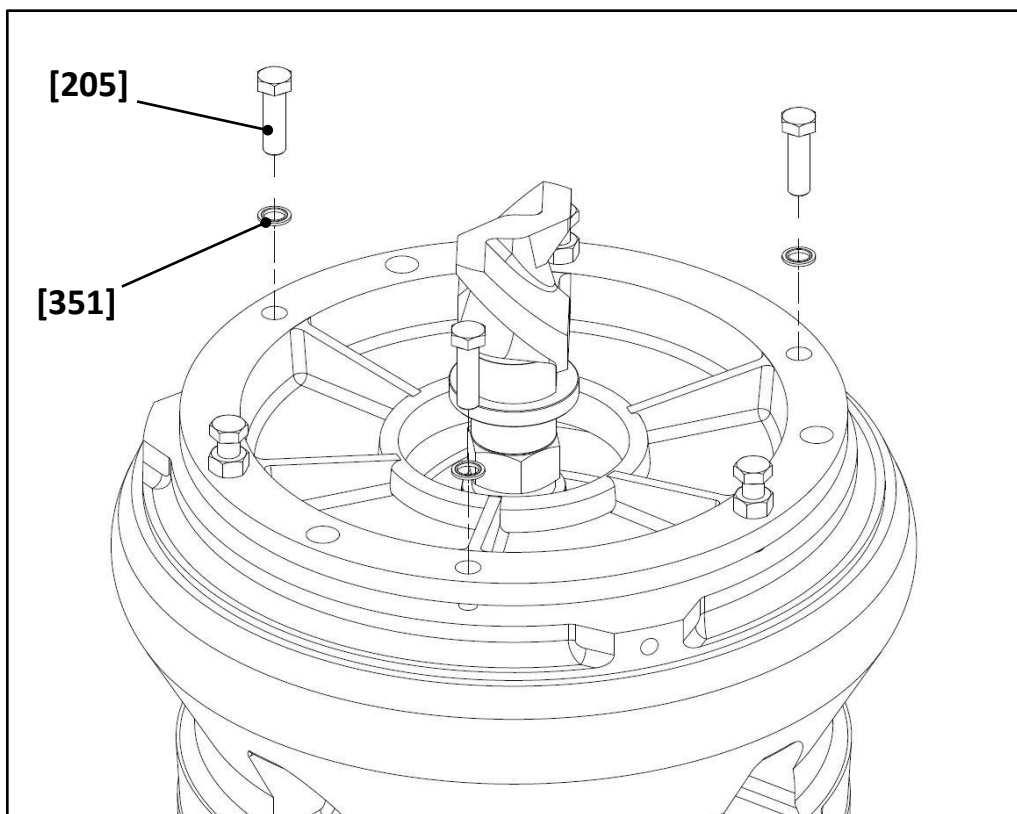

Fig. 27
- remove the n°3 bolts **[205]** and related seal washers **[351]** (see **Fig. 27**);